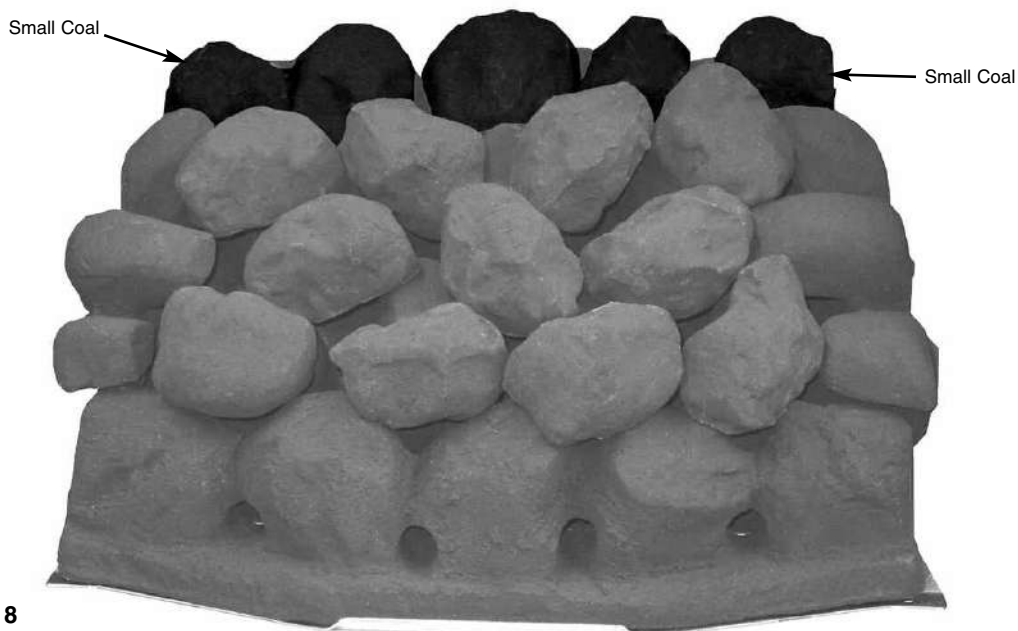

Fig. 18
8. Place the next three coals in the middle, on the back edge of the coals previously laid ensuring even gaps all round. Finally place the two small coals, one in each top corner. Make any adjustments necessary to achieve even gaps as this will help in giving a well balanced flame picture and an even glow (Fig. 18).